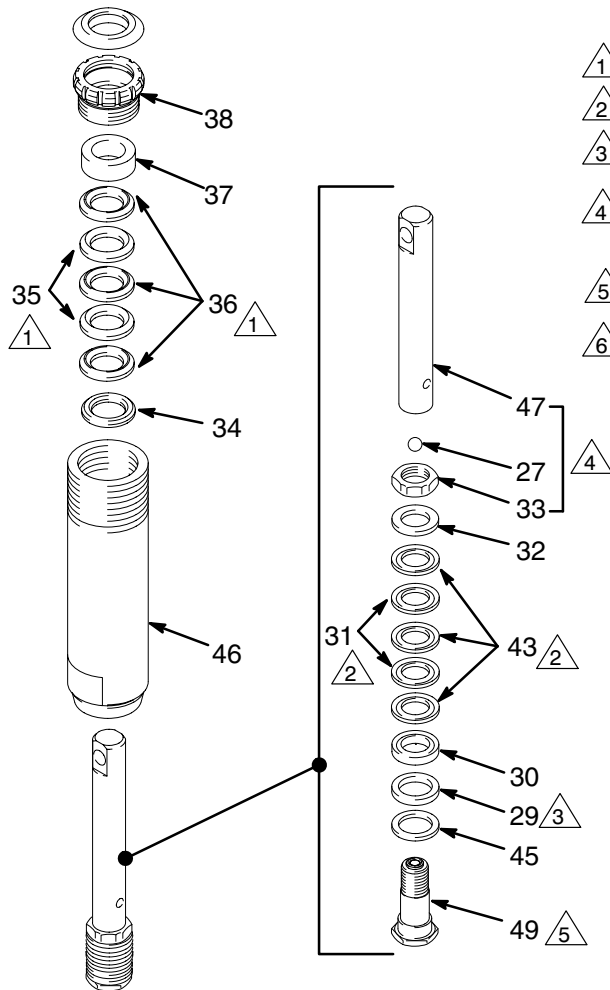
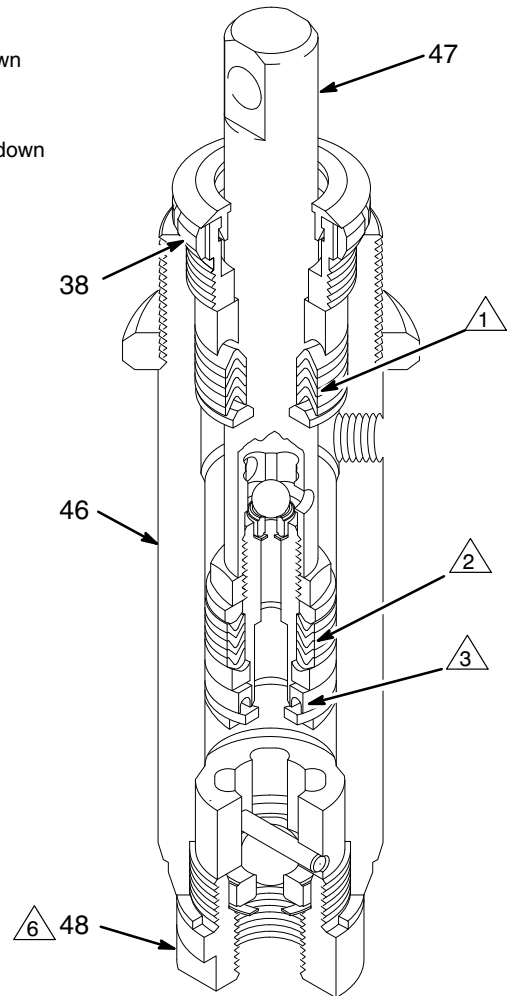

Fig. 8
Fig. 9
- Unscrew and remove the packing nut (38). Using a rubber mallet, tap the piston rod (47) down and pull it out through the bottom of the cylinder (46). See Fig. 8 and 9.
- Clamp the flats of the piston rod in a vise. Use a wrench to loosen the nut (33) and unscrew the piston valve (49) from the piston rod. Remove the ball (27), nut (33), glands (30 & 32), packings (31 & 43), seal (29), and washer (45).
ing the leather and plastic packings. See Fig. 8. The "V" of the packings must face up against the fluid pressure. See Fig. 9. Tighten the nut (33) to 10.5 in-lb (1.2 N.m) to seat the packings, then back off the nut and hand tighten it.
- Place a new ball (27) in the piston rod (47). Apply locking compound to the threads of the piston valve (49) and screw it into the rod hand tight, 1–2 in-lbs (0.11–0.22 N.m) torque. Tighten the nut against the piston rod to 18–20 ft-lb (24–27 N.m) torque, without changing the tightness of the nut against the packings.
- Install the throat packings, glands and packing nut, leaving the packing nut loose. The "V" of the packings must face down against the fluid pressure. Alternate the plastic packings (36) and the leather packings (35). See Fig. 8.
- Insert the piston rod (47) through the bottom of the pump cylinder (46).
- Assemble and install the intake valve (48); torque it to 75–85 ft-lb (100–115 N.m). Tighten the packing nut (38) just enough to stop leakage—no tighter.